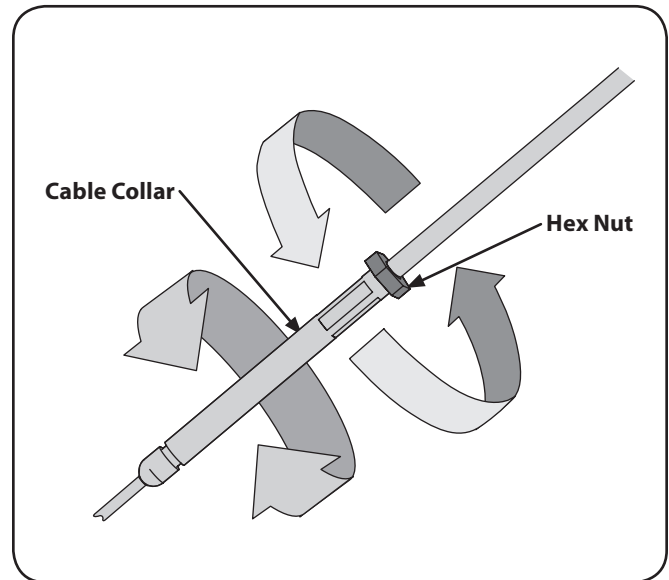

Figure 3-9
- Adjust the forward clutch cable by loosening the hex nut. See Figure 3-9.
- Turn the cable collar section one or two turns to increase or decrease tension on the cable. See Figure 3-9.
- Retighten the hex nut against the cable collar. See Figure 3-9.